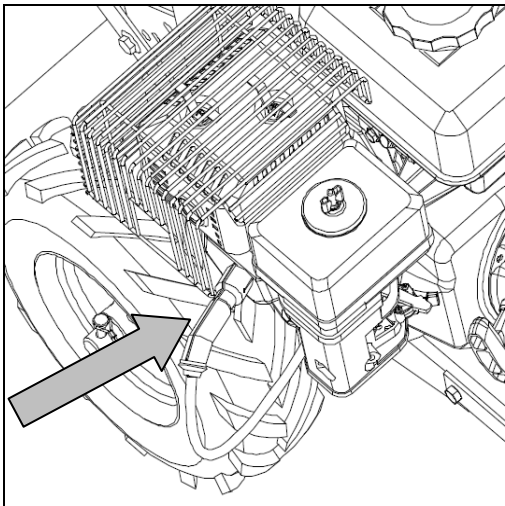

Fig.29
1. Disconnect the spark plug connector (Fig. 29).